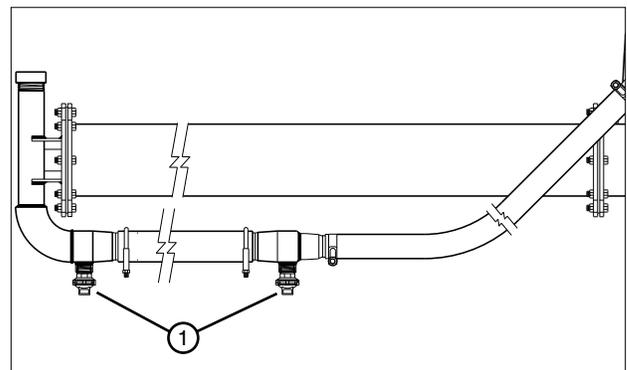

Figure 73-2 1. Booster Pump Hose Drain
- Make sure the booster pump hose drain is not plugged with sand. See figure 73-2.